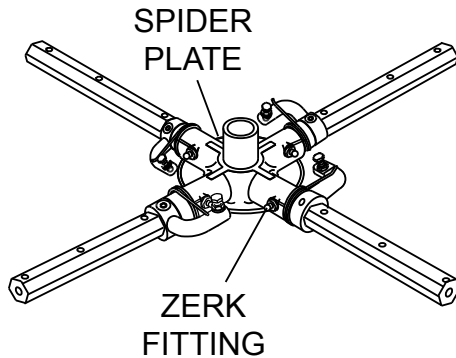

Figure 32. Removing Zerk Grease Fitting
1. Each trowel arm is held in place at the spider plate by a hex head bolt (with zerk grease fitting). Remove the hex head bolt/zerk grease fitting from the spider plate. (Figure 32)